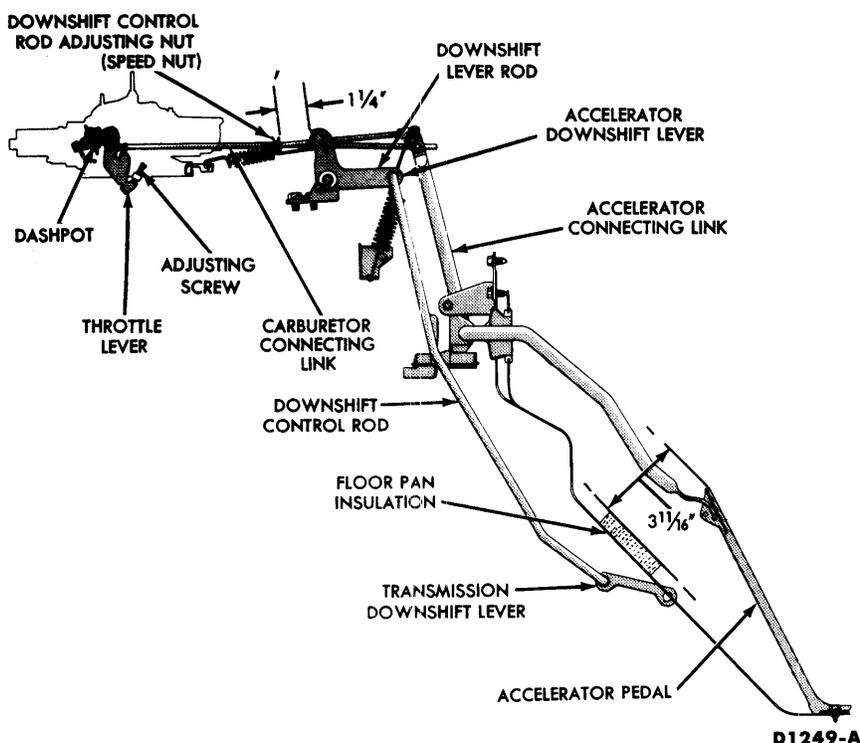

FIG. 1—Throttle and Downshift Linkage
The carburetor throttle lever must be against the idle adjusting screw (Fig. 1) at specified idle rpm in D1 or D2.
6. Adjust the accelerator pedal height (Fig. 1) by disconnecting the carburetor connecting link at the carburetor and turning in or out as necessary.